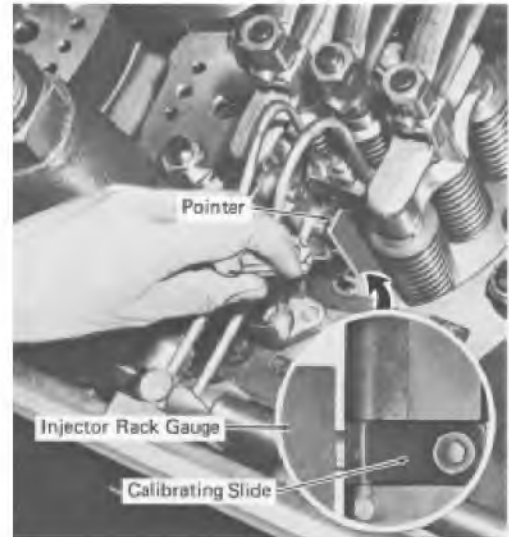

Fig. 15-13 - Injector Rack Gauge Application
4. Place the gauge over the injector rack and hold the gauge firmly against the face of the calibrating slide on the injector, Fig. 15-13, and check the gauge pointer. If the pointer is at the short ("S") end of gauge scale, outside of the setting range, the rack is not extending out far enough from the injector. Loosen the locknut on the adjusting link and turn adjusting nut on link until pointer is at the long ("L") end of the scale; then reverse pointer travel until it is within the scale setting range. Hold the adjusting nut and tighten locknut. The reason for exceeding the setting range when making adjustment is so that, in setting of the racks, the backlash will be taken up in the same direction.